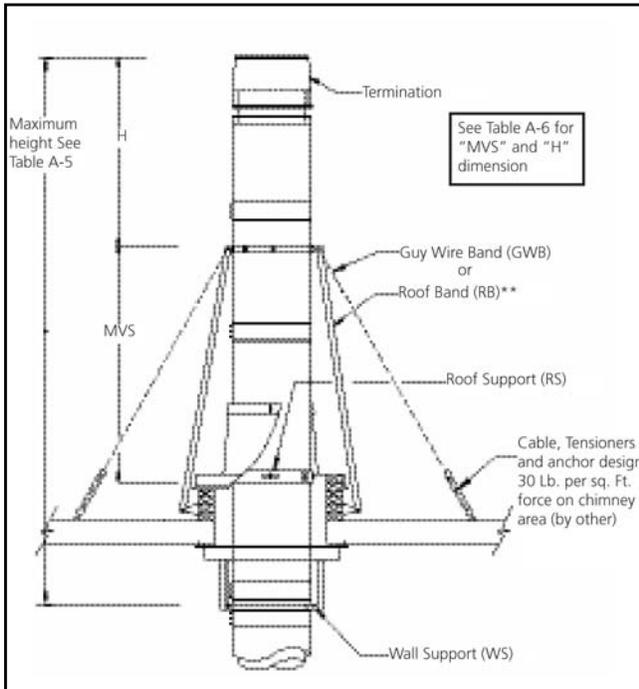

Figure A-6 - Vent height with rigid bracing or guying option
4. Roof Band assembly (RB) model part is used for rigid bracing in above-roof installations. Guy Wire Band (GWB) model can also be used as an option, instead of the roof band assembly.
5. In addition to the roof support where freestanding height is exceeded, the vent needs to be secured below the roof with a support to protect the roof flashing against additional loads caused by wind on the exposed vent system (See Fig. A-6).